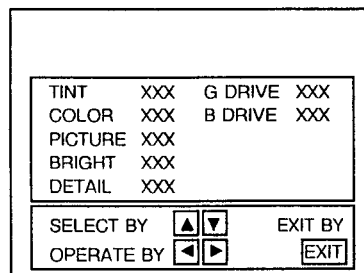

Fig. 5 GAME MODE
- 4) If any of the GAME / LOW LIGHT / HIGH LIGHT / RF AFC CHK / I2C BUS CTRL items are selected and the LEFT / RIGHT KEY is pressed, the screens shown in Fig. 5, 6, 7, 8 and 9 are displayed respectively and the settings or verifications can be performed.